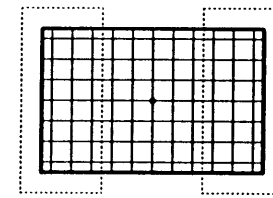

FIG. 4
- b) Adjust PIN-GH. The sides of the pattern will move in and out, adjust it so that the left and right side lines are straight up and down. See Fig. 4